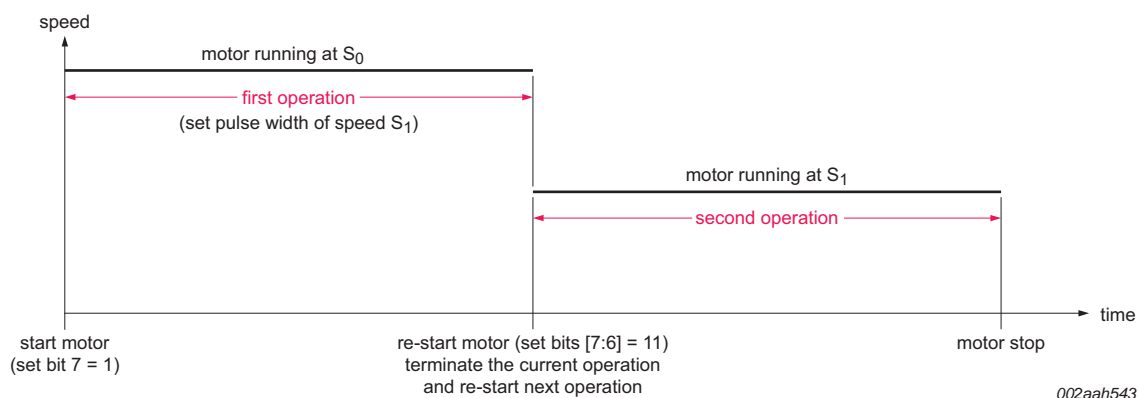

Fig 13. Re-start motor with ramp-up/ramp-down disable while current motor running in the final speed
- Set re-start motor bit to '1' while the current motor is running (bit 7 = 1) in the final (top) or target speed ( $S_0$ ), the re-start motor action will take place immediately based on the new motor parameter registers setting. If both ramp-up/ramp-down are disabled, it will change to new speed of  $S_1$  immediately as shown in Figure 13. If both ramp-up/ramp-down are enabled, it will go to new speed of  $S_1$  with either ramp up ( $S_0 < S_1$ ) or ramp down ( $S_0 > S_1$ ) as shown in Figure 14.